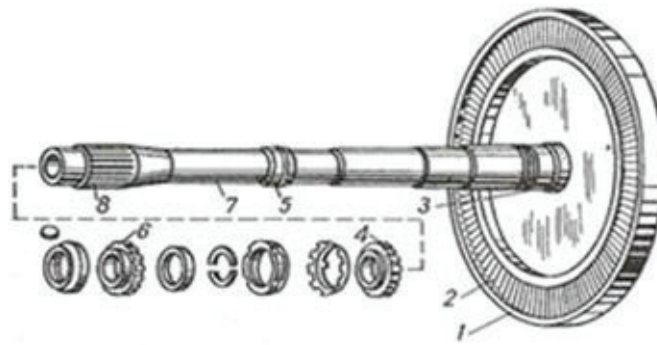

Fig. 1
a) Name all the components of the device in Figure.1.